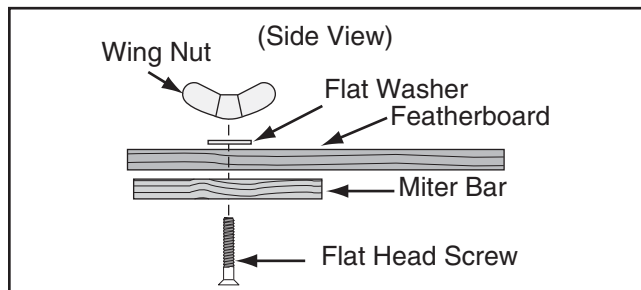

Figure 82. Assembling miter slot featherboard components.
8. Assemble the miter bar and featherboard with a $\frac{1}{4}$ "-20 x flat head screw, flat washer, and a wing nut or a star knob (see **Figure 82**). Congratulations! Your featherboard is complete.